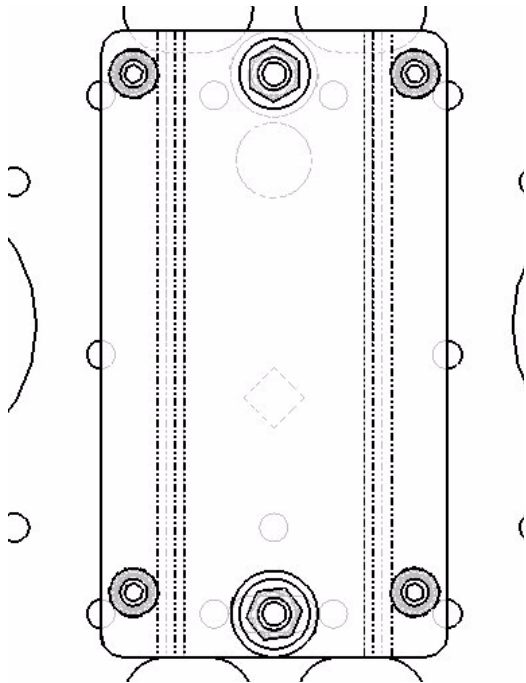
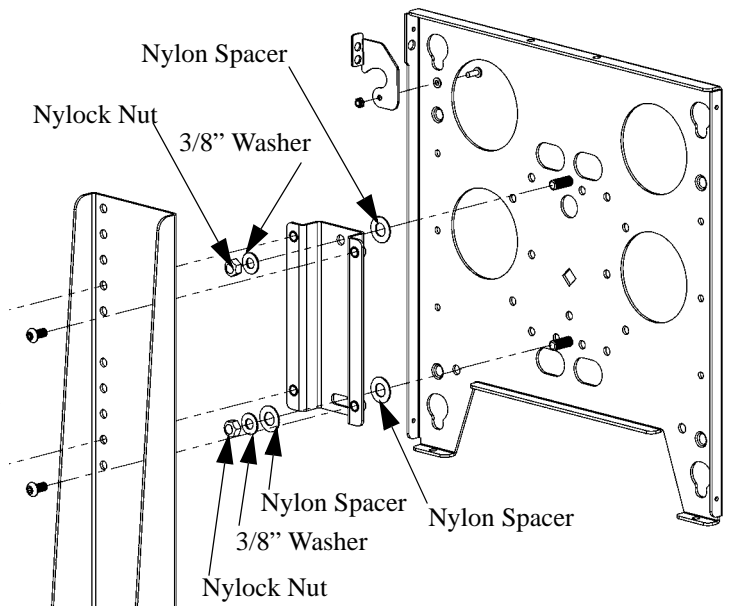

FIGURE 3. SINGLE UPRIGHT SPACER SWIVEL ADJUSTMENT
FIGURE 4. ASSEMBLY
1. Using four 5/16-18 X 5/8" button head cap screws and 5/16-18 Nylock nuts, secure the post assembly to the base assembly (see Figure 3).
2. Attach latching flag to faceplate using 10-24 Phillips head screw, Nylon washer, and Nylock nut (see Figure 4).
3. Using two washers (one Nylon .38 ID and one SAE 3/8") and Nylock nut, secure the top of the single upright spacer to the top stud of the upright post (see Figure 3 and Figure 4).
4. Using two 3/8 ID Nylon spacers, two SAE 3/8" washers, and Nylock nut, secure the bottom of the single upright spacer to the bottom stud of the upright post (see Figure 3 and Figure 4).
6. Loosen the Nylock nuts securing the bottom of the single upright spacer to the bottom stud of the upright post (see Figure 3), align top assembly, and tighten Nylock nuts.